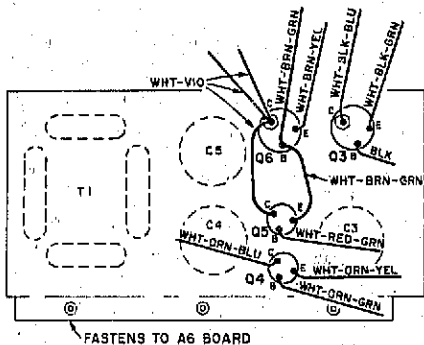

Figure 5-20. Q3-Q8 Terminal Identification:
h. When the deck on which the transistors are mounted is free of its fastenings, it can be shifted so the under side can be exposed. One method is to pull it gently out from under the A8 Board, and then turn the deck over. Transistors and terminals are identified in Figure 5-20.